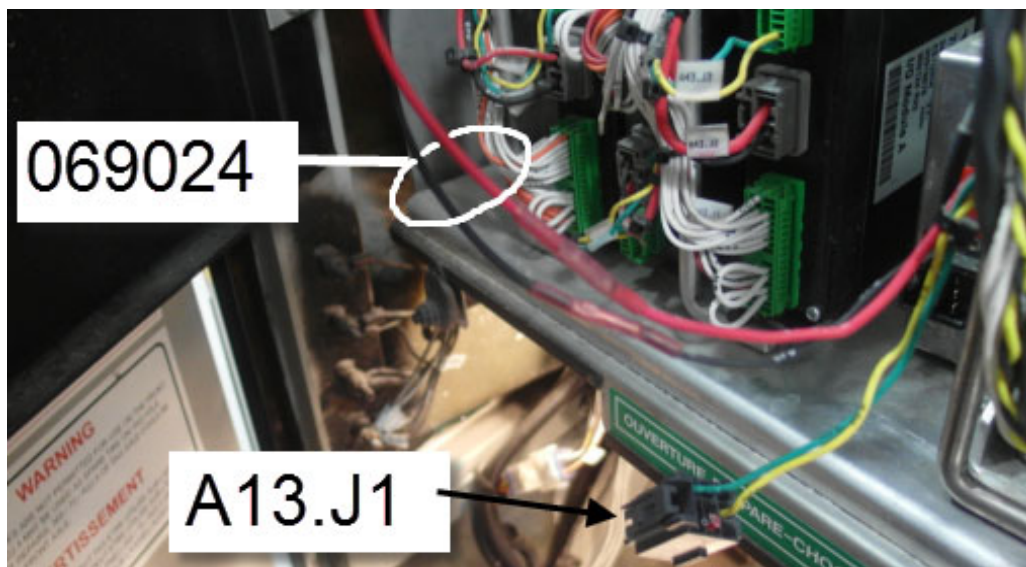

FIGURE 5
7. Crimp circuit 24VI (red) & GND2 (black) of harness 069024 to circuits 24 WUP (red) & GND (black) respectively of Master ID connector A13.J1 (see FIGURE 5). Heat up each butt splice shrinking sleeve